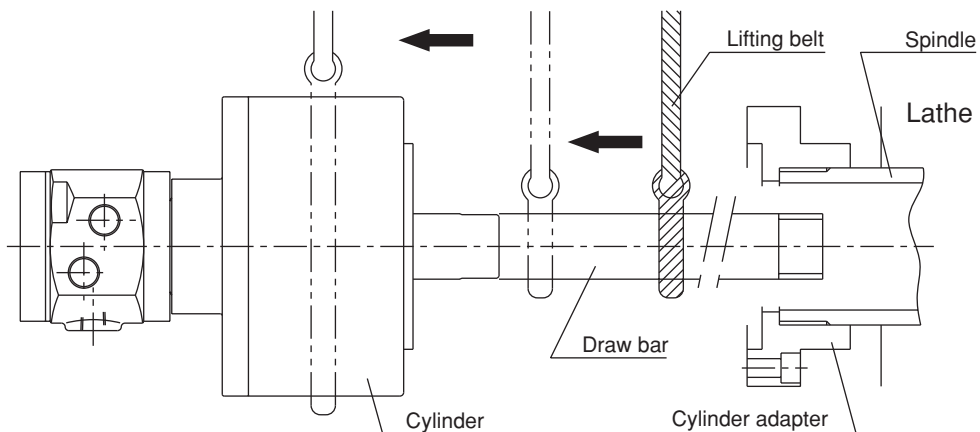

Fig. 13
- When removing/installing the cylinder, use a lifting belt and perform as follows. (Fig.13)